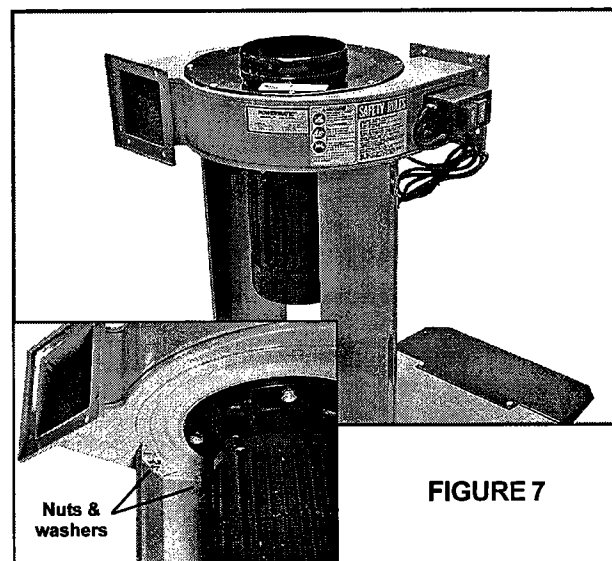

FIGURE 7
5. With the aid of an assistant, lift the impeller housing with motor on to the support brackets, dropping the four bolts mounted to the impeller housing into the four holes in the support brackets. See Figure 7. Secure with four nuts, four lock washers, and four flat washers.